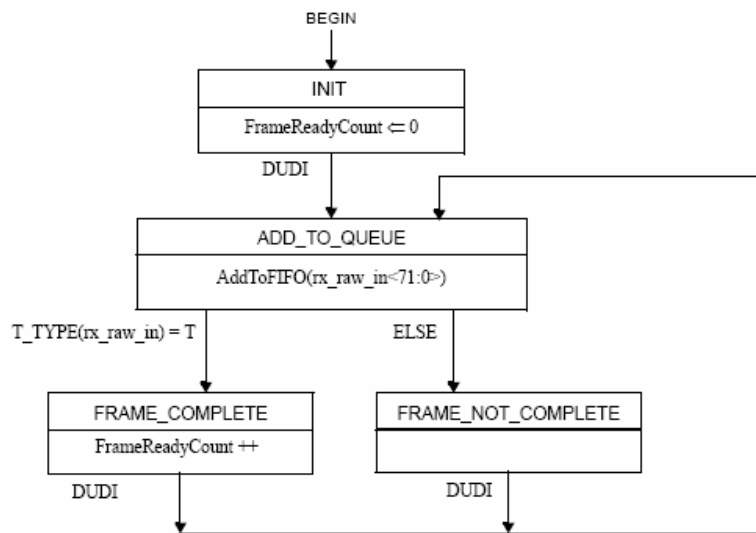
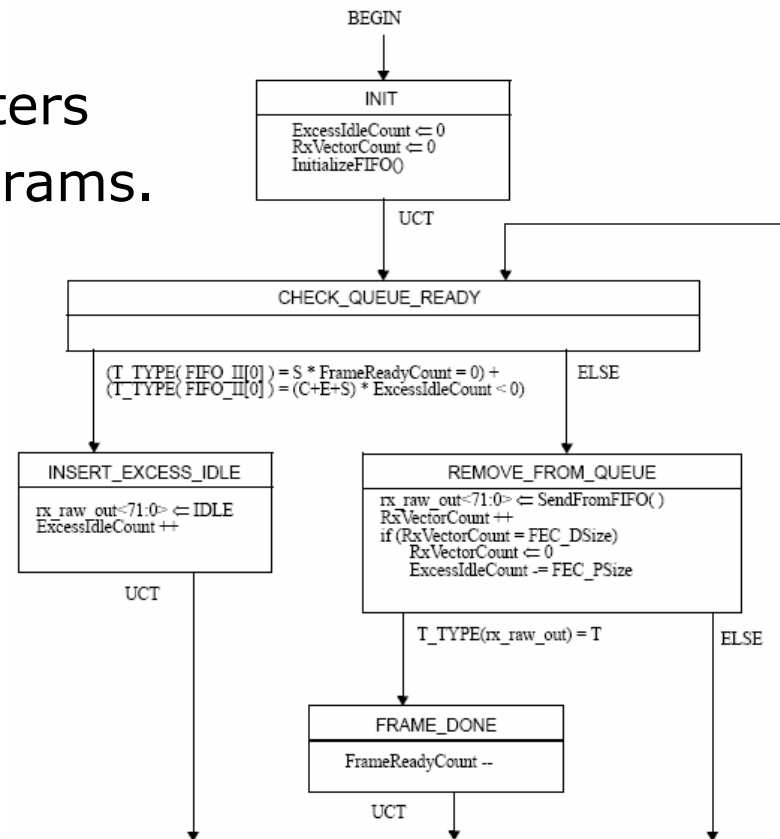

Figure 92-26—PCS Idle Insertion, input process state diagram
Figure 92-27—PCS Idle Insertion, output process state diagram
- Figure 92-26 and Figure 92-27 are merged into a single figure with fewer states.